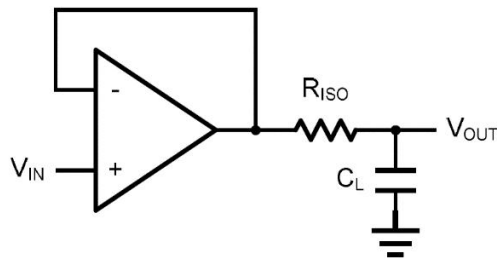
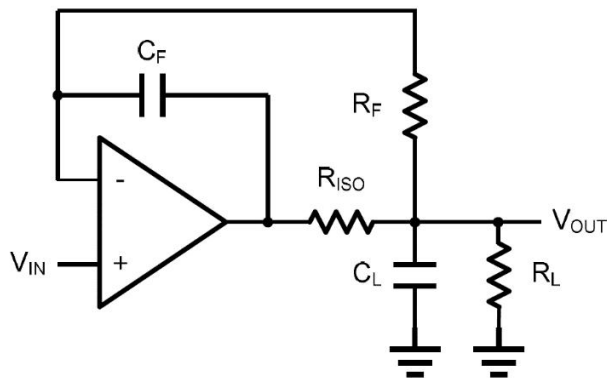

Figure 2. Indirectly Driving a Capacitive Load Using Isolation Resistor
Figure 3. Indirectly Driving a Capacitive Load with DC Accuracy
The CBM855X family is optimized for bandwidth and speed, not for driving capacitive loads. Output capacitance will create a pole in the amplifier's feedback path, leading to excessive peaking and potential oscillation. If dealing with load capacitance is a requirement of the application, the two strategies to consider are (1) using a small resistor in series with the amplifier's output and the load capacitance and (2) reducing the bandwidth of the amplifier's feedback loop by increasing the overall noise gain. Figure 2. shows a unity gain follower using the series resistor strategy. The resistor isolates the output from the capacitance and, more importantly, creates a zero in the feedback path that compensates for the pole created by the output capacitance.
The circuit in Figure 3 is an improvement to the one in Figure 2.  $R_F$  provides the DC accuracy by feed-forward the  $V_{IN}$  to  $R_L$ .  $C_F$  and  $R_{ISO}$  serve to counteract the loss of phase margin by feeding the high frequency component of the output signal back to the amplifier's inverting input, thereby preserving the phase margin in the overall feedback loop. Capacitive drive can be increased by increasing the value of  $C_F$ . This in turn will slow down the pulse response.